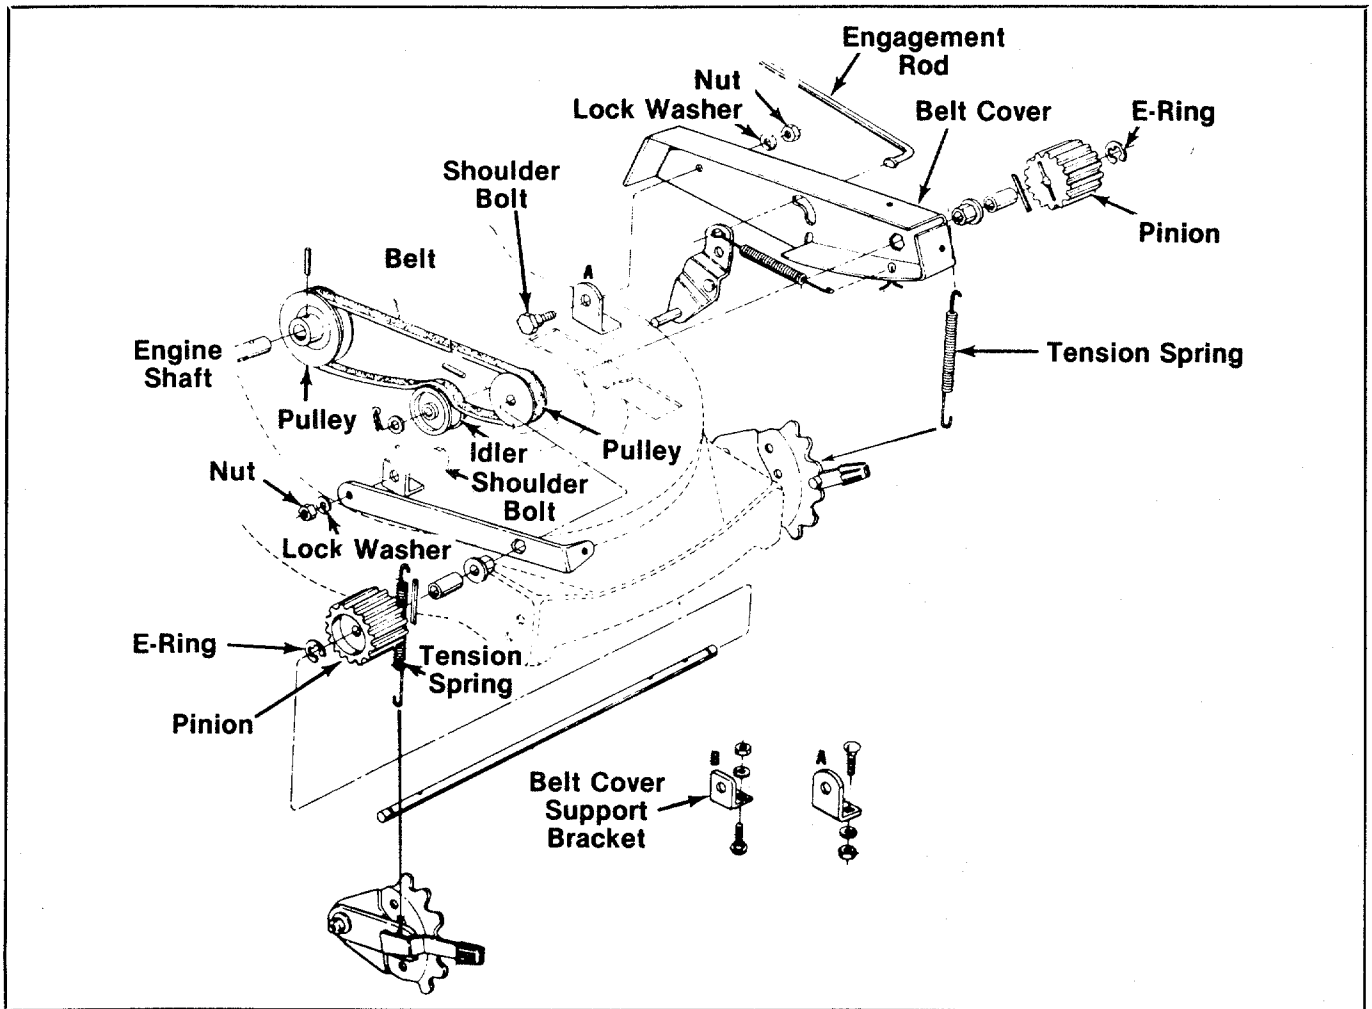

FIGURE 26.
BELT REPLACEMENT (See Figure 26)
2. Remove both tension springs. See figure 26.